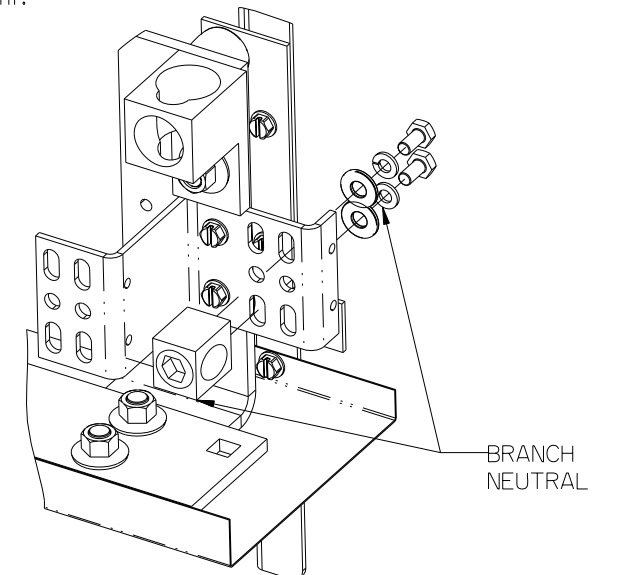

Figure 8
- Reference fig. 8 - Installing the Branch Neutral Lug (item 11) in a panelboard. The Branch Neutral is located at the bottom of the "Z-rails", or mirrored at the top depending upon the feed cable location. Two types of Neutral lug assemblies are included in the kit, be sure to install the kind pictured below. The Neutral Lug assemblies can be mounted, as shown, on either side of the Branch Neutral depending on cable feed location. Torque all hardware as specified on the rear of the dead front.